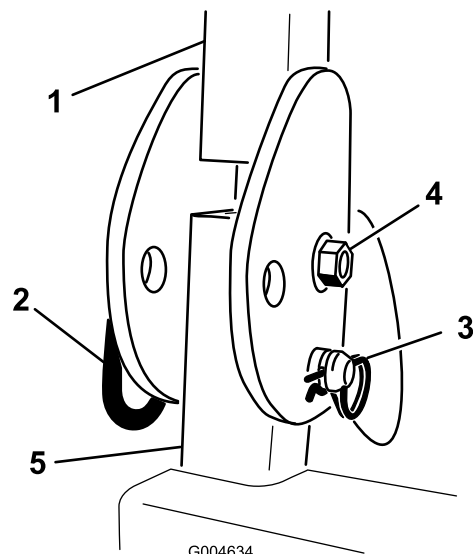

Figure 95
2. Remove the bolt, nut, hair pin cotter and pin securing each ROPS assembly to the ROPS posts (Figure 95). Remove the ROPS assembly.